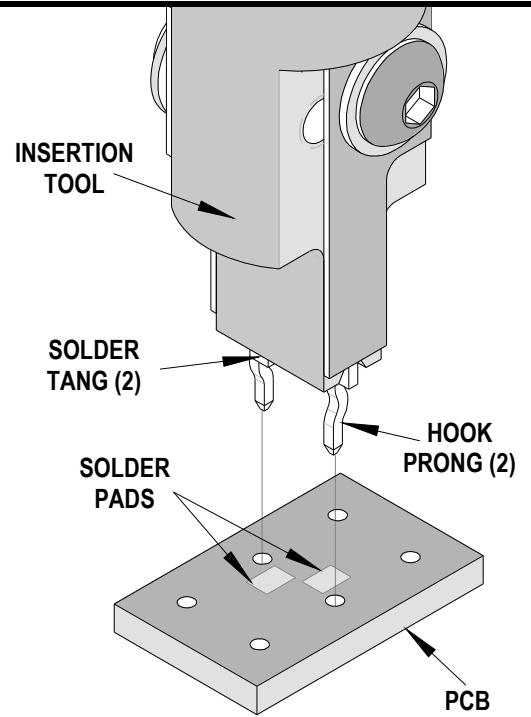

Figure 2
5. Continue pushing the hook until it is completely seated in the PCB. The hook is seated when the solder tangs are touching the solder pads of the PCB. The hook should snap into place. See Figure 2.